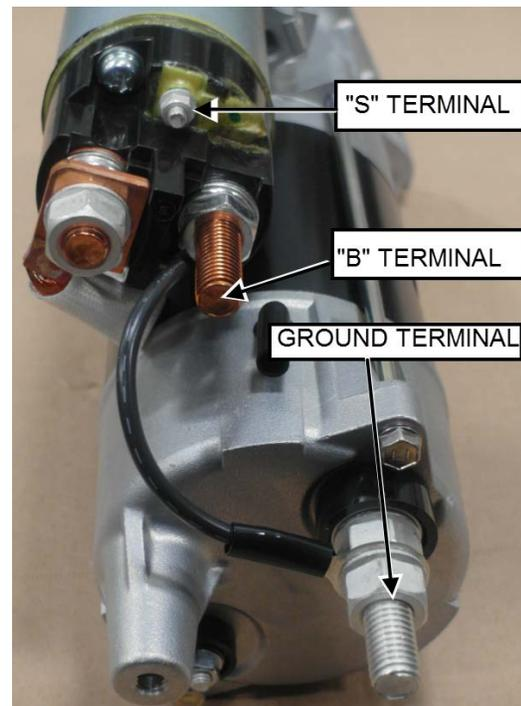

FIGURE 4 : TERMINAL IDENTIFICATION
7. Connect circuit **101** to **B** terminal (FIGURE 4 & FIGURE 5). Position circuit **101** cable to be in line with the nylon tie mount on the starter.